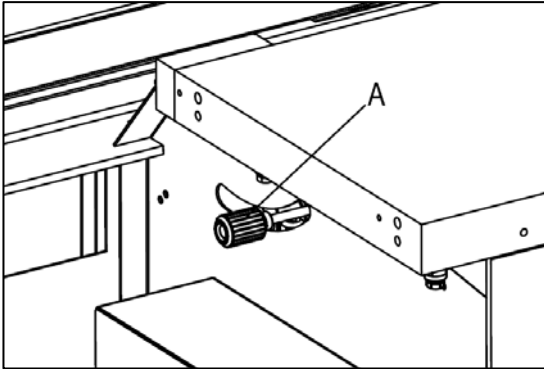

Fig.37
1. Adjusting knob (A) through the cabinet, right revolve, scoring blade up, left revolve, scoring blade down, as **Fig.37**.